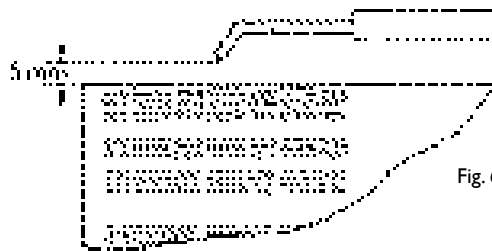

Fig. 6
- Check the starting electrode position (see Fig. 6).